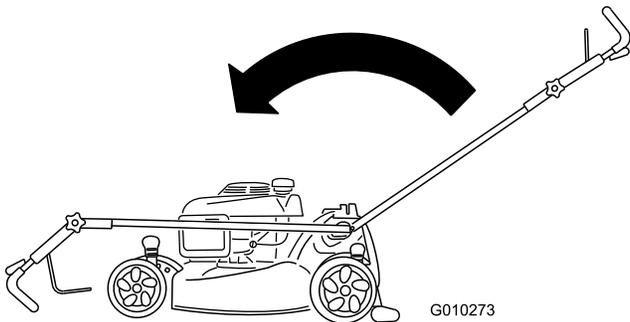

Figure 53
2. Move the handle all the way forward and loosen the upper handle knob (Figure 53).